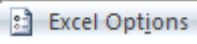

Figure B-5: Security Options Dialogue Box
3) In the **Microsoft Office Security Options** dialog box (Figure B-5), choose “Enable this content” and select **OK**.